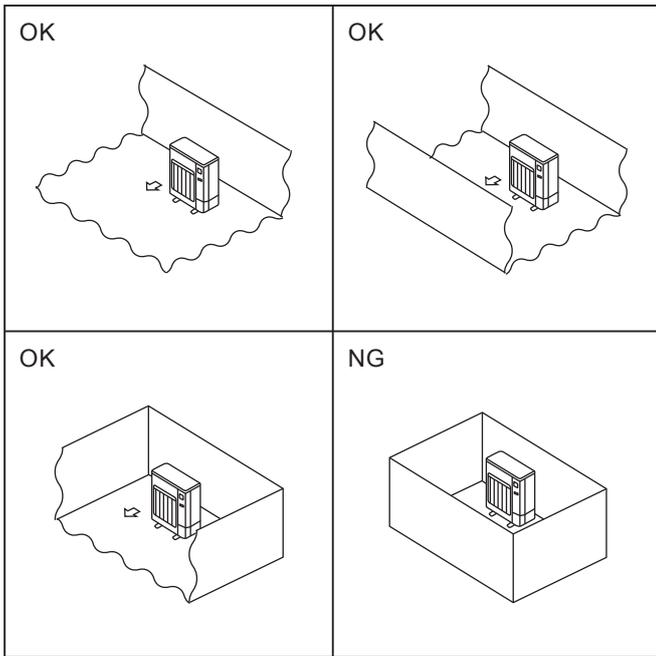

Fig. 2-2
- Ⓞ Install outdoor units in a place where at least one of the four sides is open, and in a sufficiently large space without depressions. (Fig. 2-2)